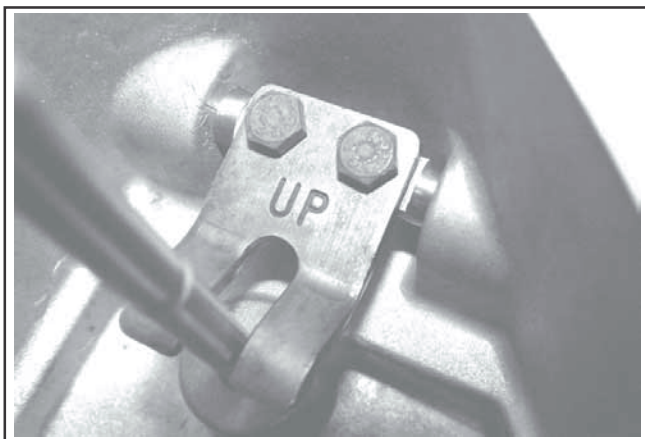

Figure 10-12. Installed Governor Yoke.
4. Attach the governor yoke to the cross shaft so the curved section is **up** as marked. Secure with the two screws. If a thread locking compound is not preapplied, apply a small amount of Loctite® No. 266 or equivalent, to the screw threads before installing. Torque the screws to 2.2 N·m (20 in. lb.). See Figure 10-12.